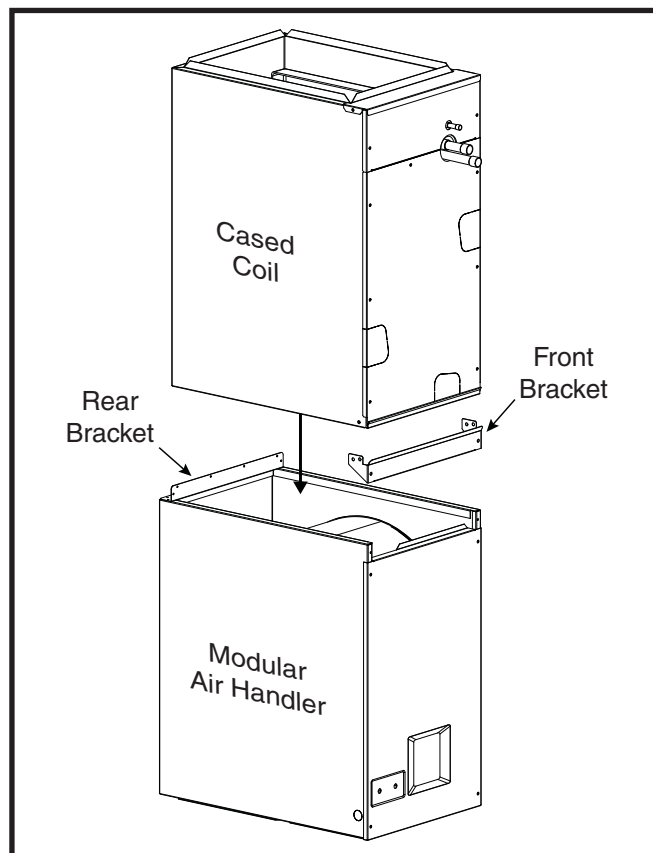

Figure 4. Downflow Brackets
- Carefully place the cased coil on top of the modular air handler. **NOTE:** Make sure the units are flush in the front and on the sides with a “step” fit in the back and that there are no gaps on the sides. See Figure 4.
If suspending the indoor blower from the ceiling, assemble a support frame (Figure 4) using slotted iron channel and full threaded rod. Fasten the frame together with nuts, washers, and lockwashers. Secure the support frame to the rafters with lag bolts. The indoor blower can also be suspended using steel straps around each end of the unit. The straps should be attached to the indoor blower with sheet metal screws and to the rafters with bolts.